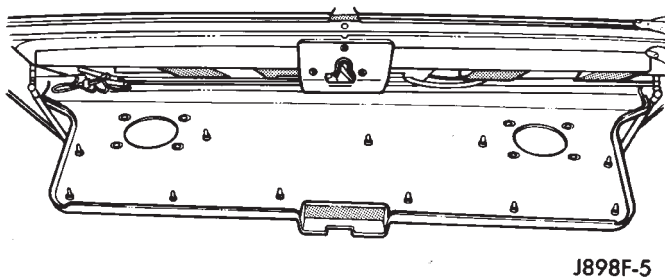

Fig. 11 Liftgate Trim Panel Removal
(1) Remove 2 screws at top outside edges of liftgate trim panel.
(2) Remove trim panel with a wide flat blade tool (Fig. 11).